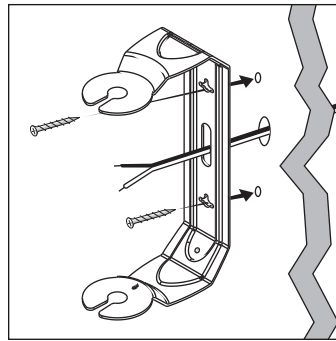

FIGURE 12: Feed speaker wire from wall through bracket wire hole for easy mounting.
- If you're feeding speaker wire through a hole in the wall behind the bracket, pull this speaker wire through the hole in the bracket before mounting the bracket [figure 12].